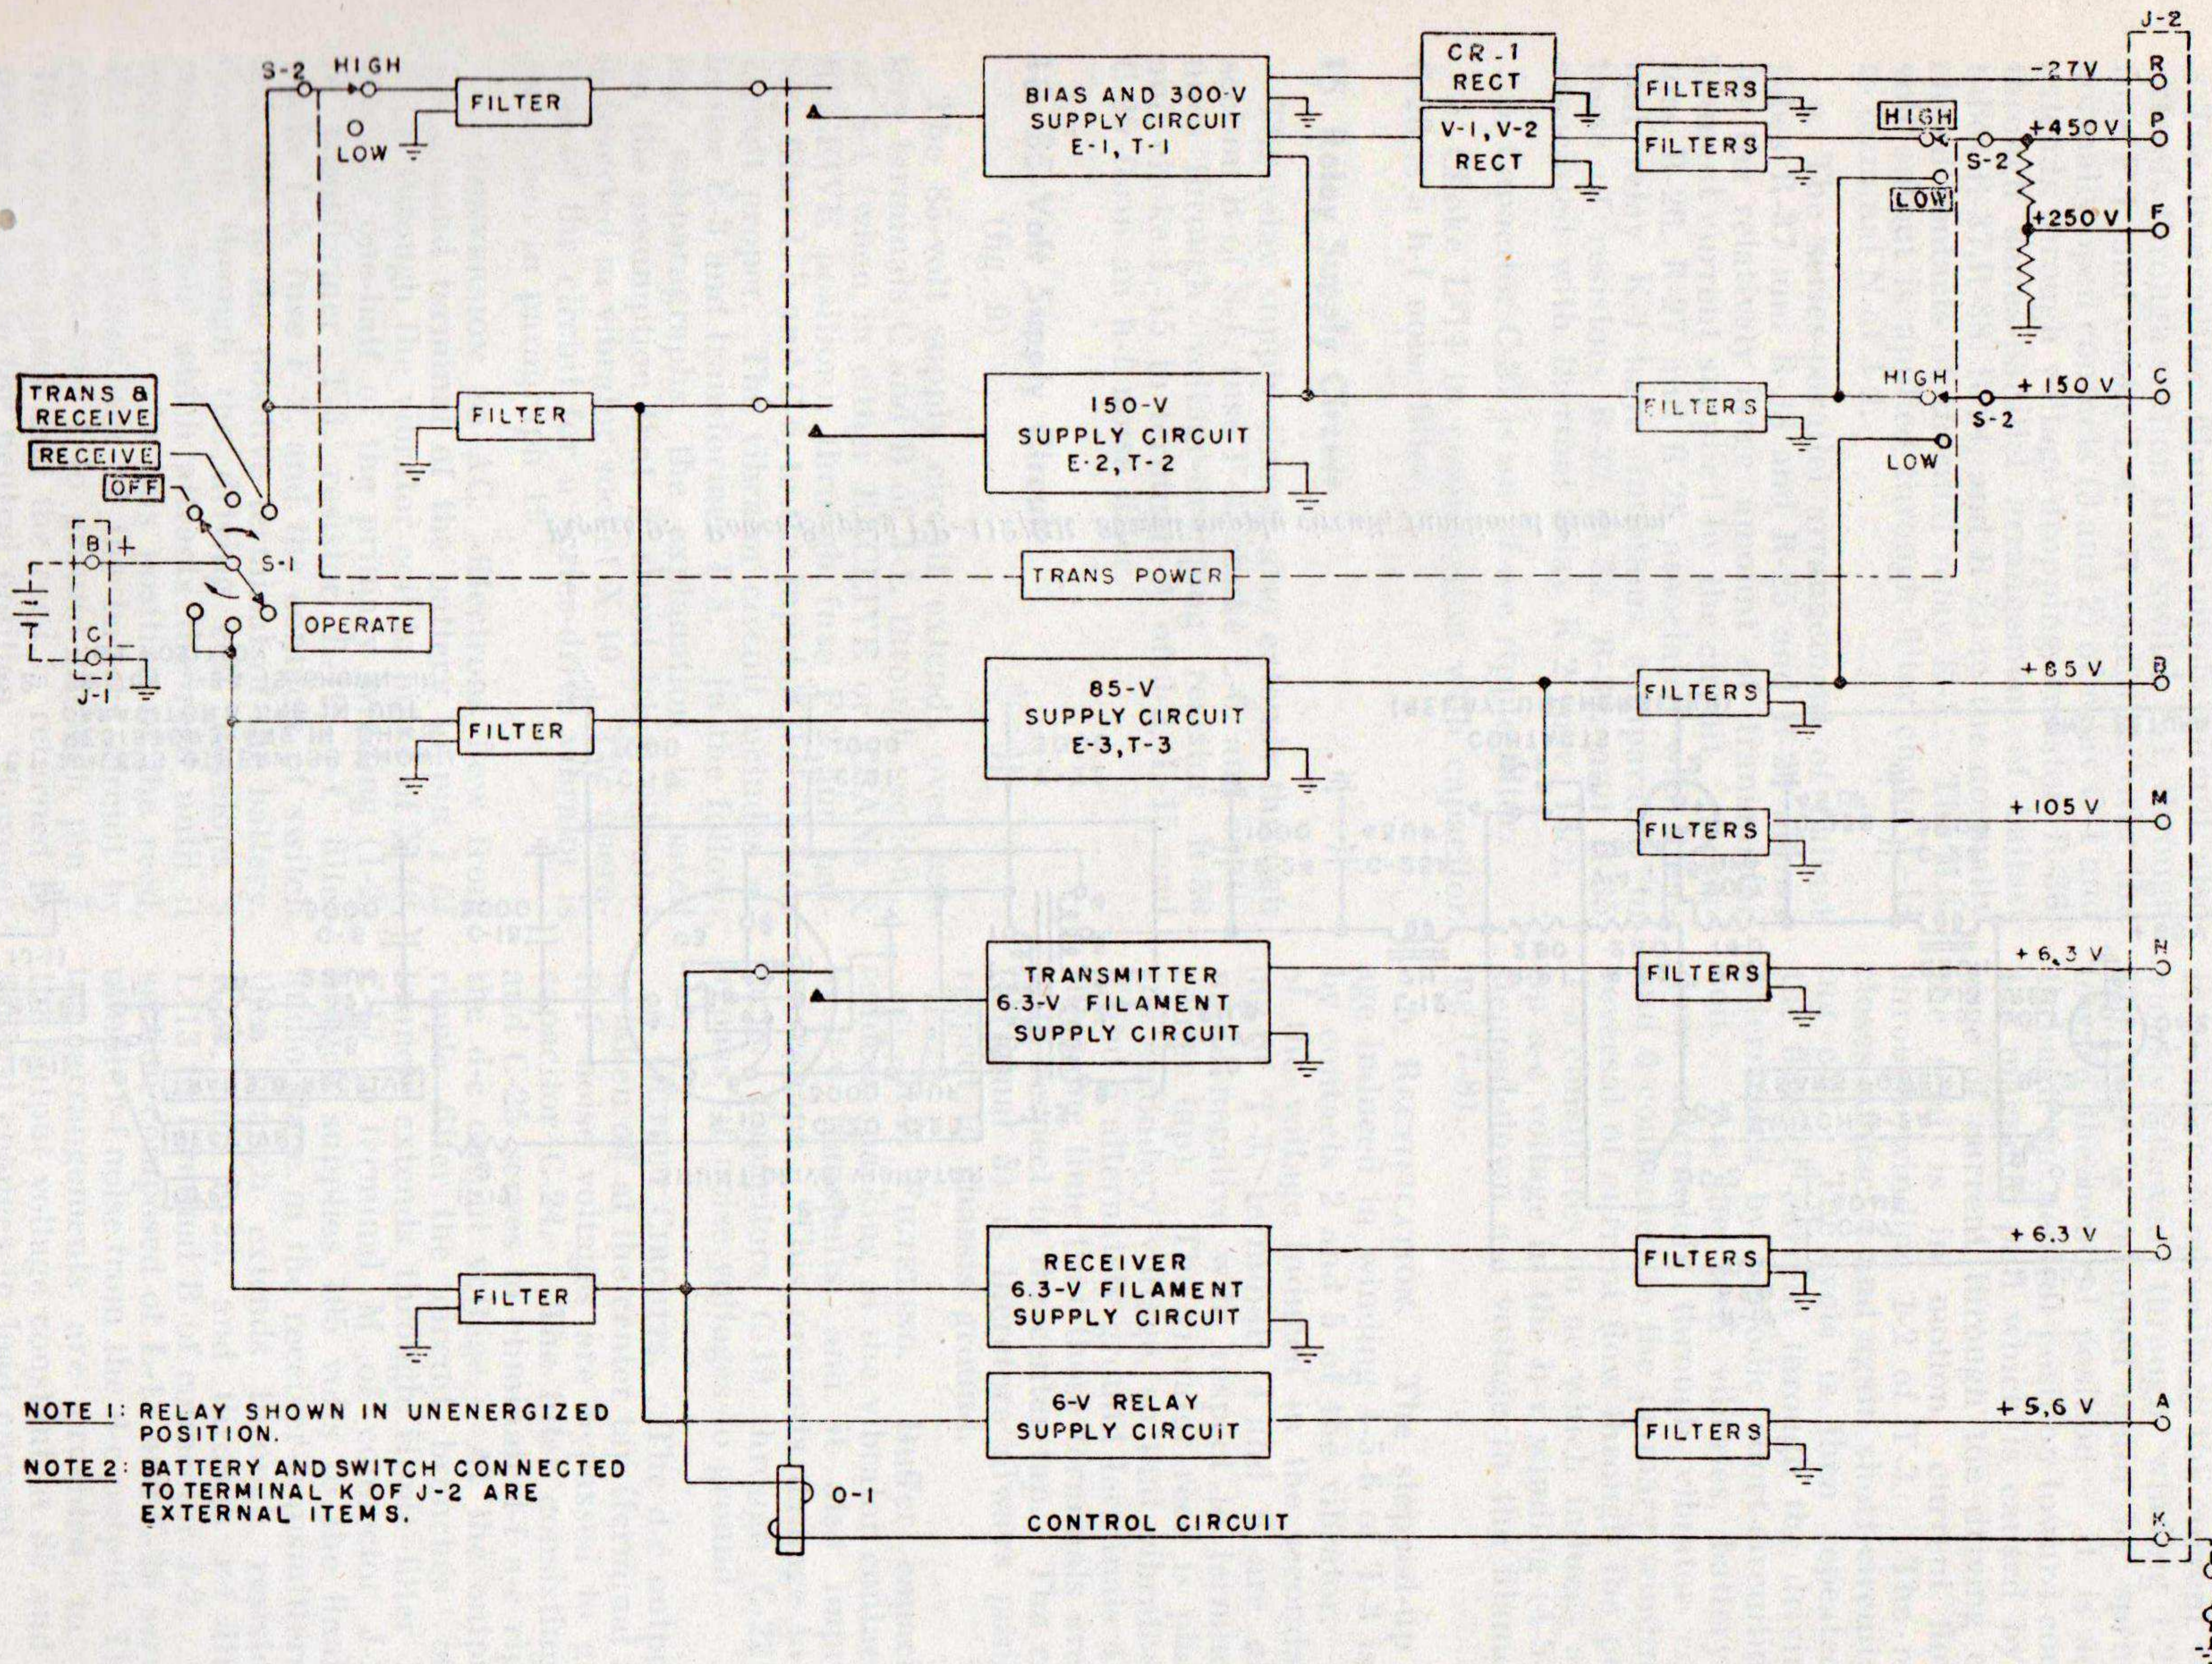

Figure 8. Typical power supply, functional block diagram.
(fig. 8)
a. Figure 8 is a functional block diagram typical of either power supply. It shows that three h-v (high-voltage) circuits and three l-v (low-voltage) circuits are supplied from the common storage battery input terminals. The h-v circuits are vibrator supplies used to provide the plate, screen, and bias voltages for the receiver and transmitter circuits in Receiver-Transmitter RT-66/GRC, RT-67/GRC, or RT-68/GRC. The l-v circuits are used to supply the receiver-transmitter filament and relay potentials.